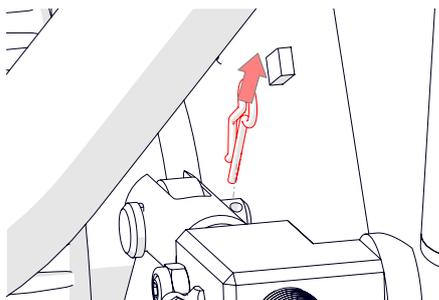

Fig. 16F - Remove the shear blade R-clip
6. Remove the R-clip from the clevis pin securing the shear blade adjuster from each side of the machine (Fig. 16F).